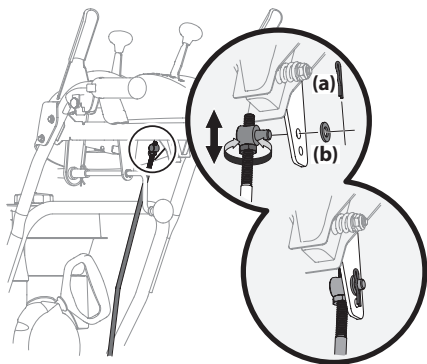

Figure 2-60
2. Remove cotter pin (a) and washer (b) from adjustment ferrule on shift rod and pull it out from shift lever. See Figure 2-60.
4. Rotate ferrule up or down on shift rod as necessary until it lines up with upper hole in shift lever. Refer to Figure 2-60 inset.